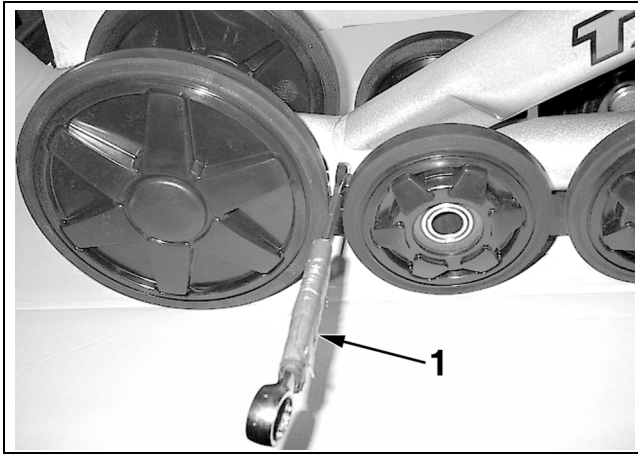

Figure 7
Adjust tension of the rubber track by turning the adjusting nut (item 1 in Figure 7) of the track tensioner. Adjust track tension.